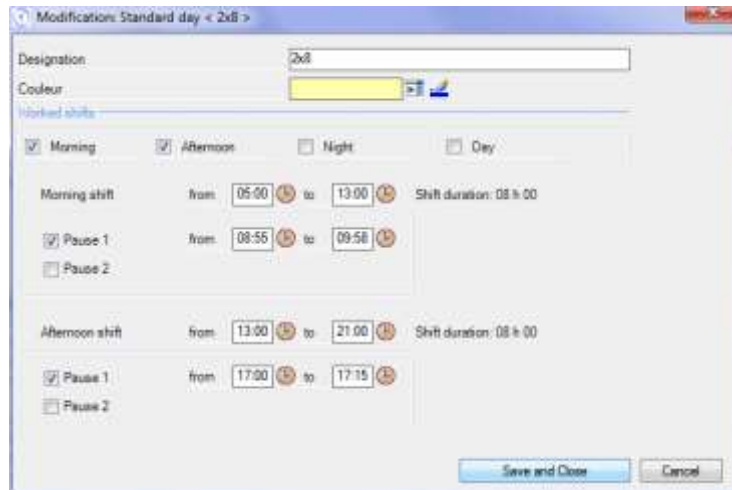

Figure 48 – The standard day form
- G Create a new standard day (Figure 48)
- H Duplicate the selected standard day (Figure 48)
- I Modify the selected standard day (Figure 48)
The colors let you visually distinguish the standard days. When you create a standard day (Figure 48), it is assigned a color.
This opens a window similar to Figure 48, where you can create a specific time slot, as you would do for a standard day, but it won't be saved as such. The specific time slot you create here will only be saved in this standard week.